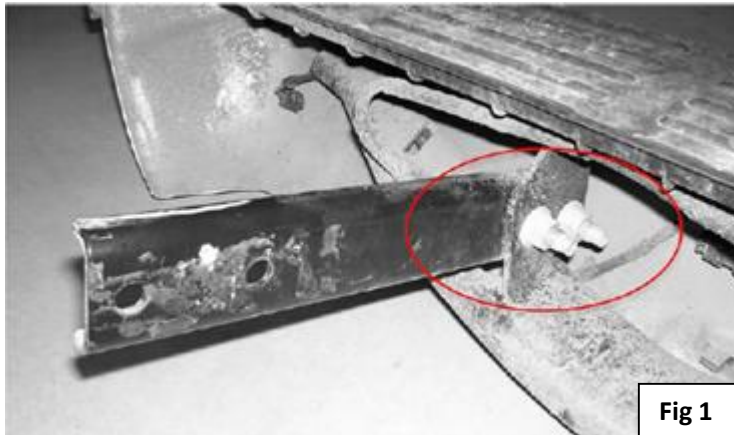

Fig 1
2. With the bumper supported, remove the four OEM bolts (two per side) shown in **(Fig 1)**. Save factory hardware for reuse.